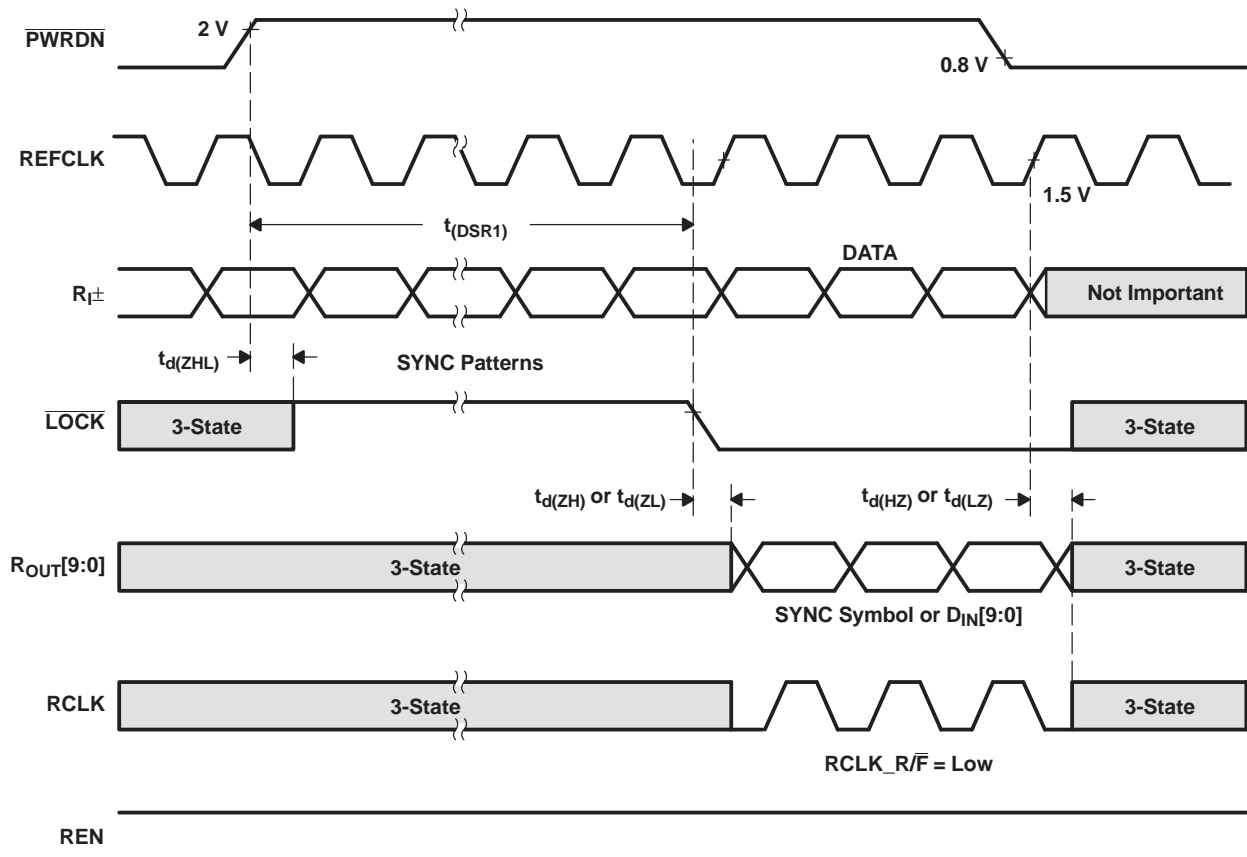

Figure 16. Deserializer PLL Lock Times and PWRDN 3-State Delays
| $t_{\text{(DSR2)}}$ | Deserializer PLL lock time from SYNCPAT | See Figure 16, Figure 17, and Note (1) | 30 MHz | | 0.3 | ns | |